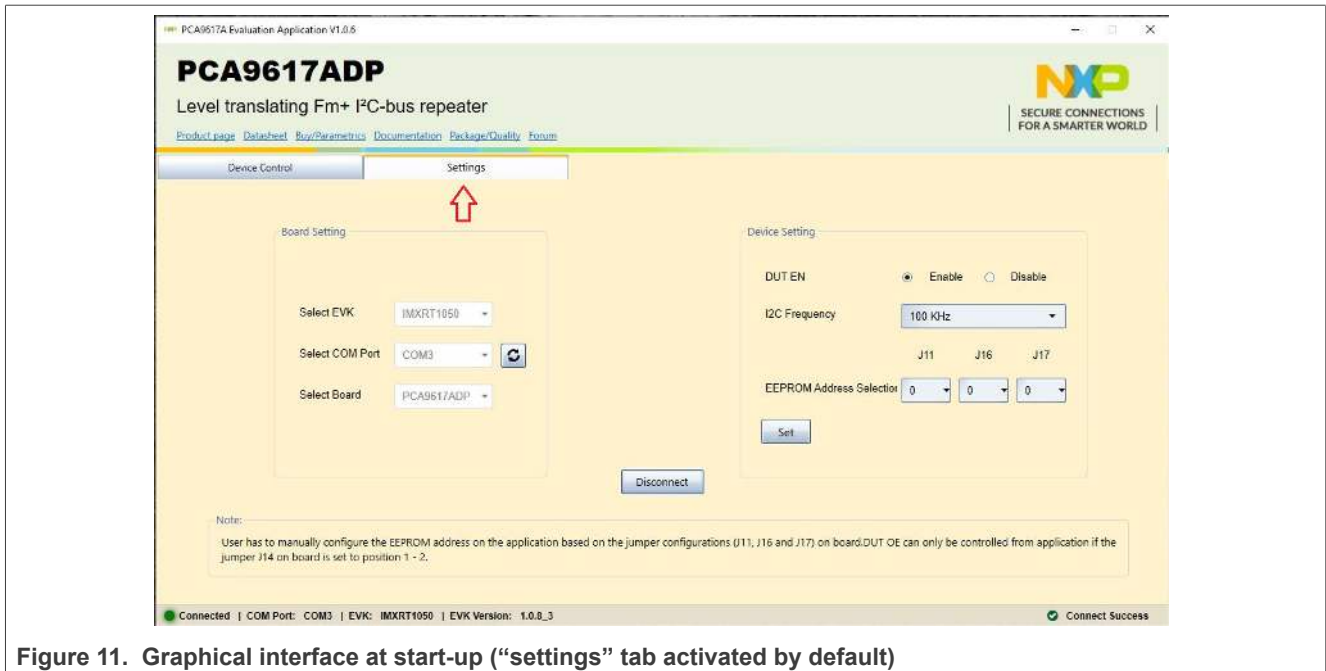

Figure 11. Graphical interface at start-up (“settings” tab activated by default)
Once installation is complete, assure that one of the mentioned three EVKs with attached PCA9617A-ARD daughterboard is connected to a PC and powered-on. Open “NXP_GUI(PCA9617A,PCA9846)” GUI application. An interface appears as shown in Figure 11:
- **Select COM port:** displays port selected for the communication. The port is automatically selected by the system (COM 3 is selected in Figure 11).
- **Select Board:** allows the user to select the correct daughterboard (the application can support two different boards). In Figure 11, the selected board is PCA9617A. Selecting the wrong daughterboard causes the connection to fail and a pop-up window with the message: “*Unable to Connect with Daughter Card*” appears on the screen.